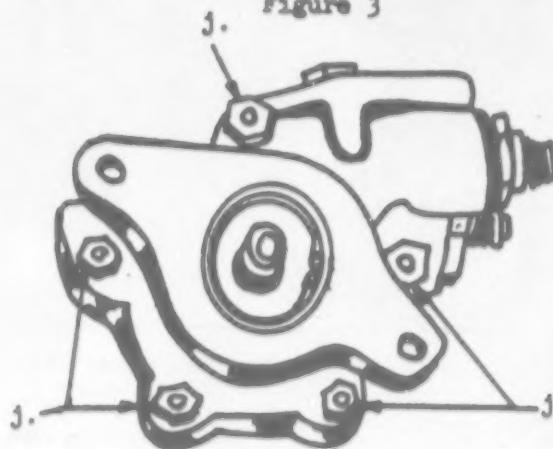

Figure 4
- STEP 11. Remove the five cover to body mounting screws (Item j in Figure 4) and separate the cover from the body.